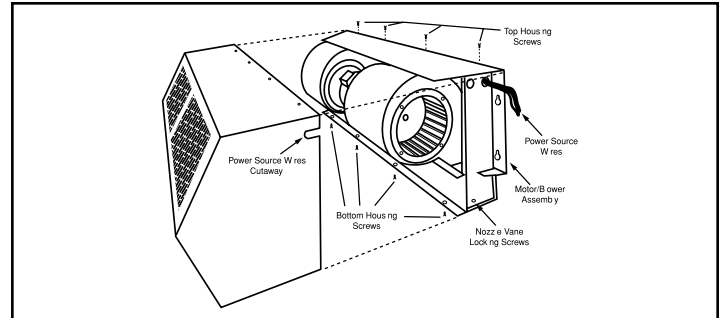

FIGURE 6 - Removing Cover
- E. Install the cover housing and attach it temporarily at each end of the unit with two of the cover screws provided. Final assembly should be done after airflow adjustments. **See Figure 6.**